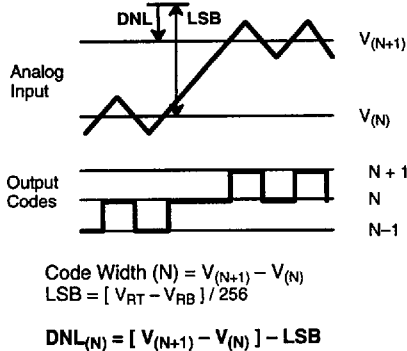
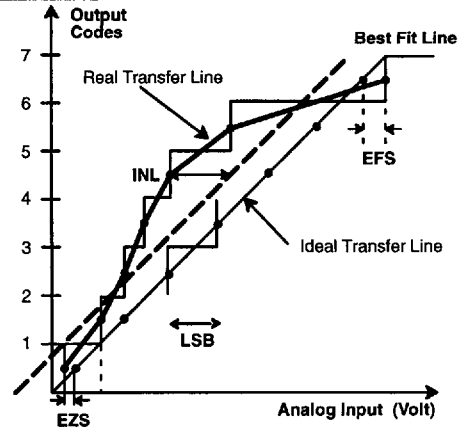

Figure 2. DNL Measurement
Figure 3. INL Error Calculation
- 1 Tester measures code transitions by dithering the voltage of the analog input (V_{IN}). The difference between the measured and the ideal code width (V_{REF}/256) is the DNL error (Figure 2). The INL error is the maximum distance (in LSB's) from the best fit line to any transition voltage (Figure 3). Accuracy is a function of the sampling rate (FS).